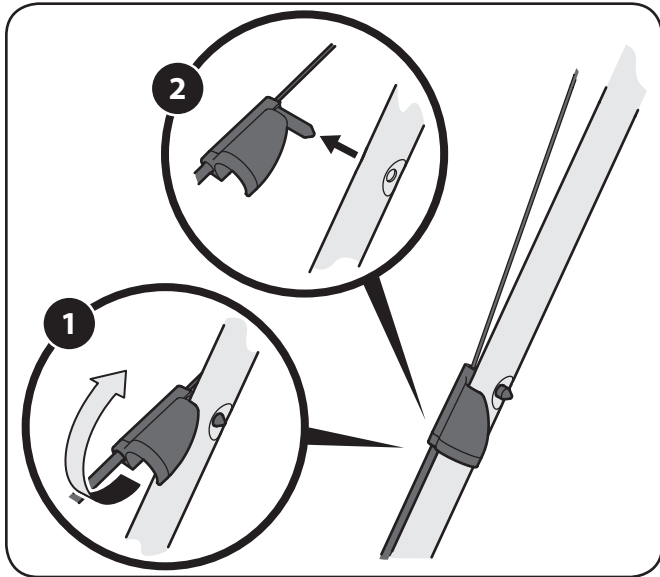

Figure 26
1. Rotate the drive cable fitting located on the left upper handle upward. See Figure 26.